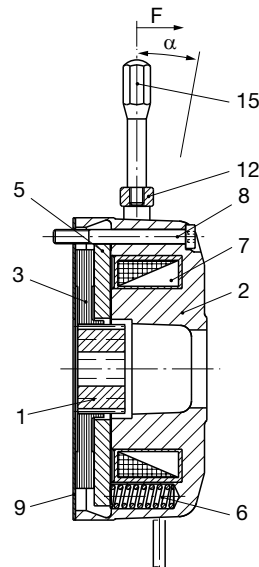

Fig. 2
- ❑ The position tolerance of the threaded holes for the cap screws (8, Fig. 2) must not exceed 0,2 mm.